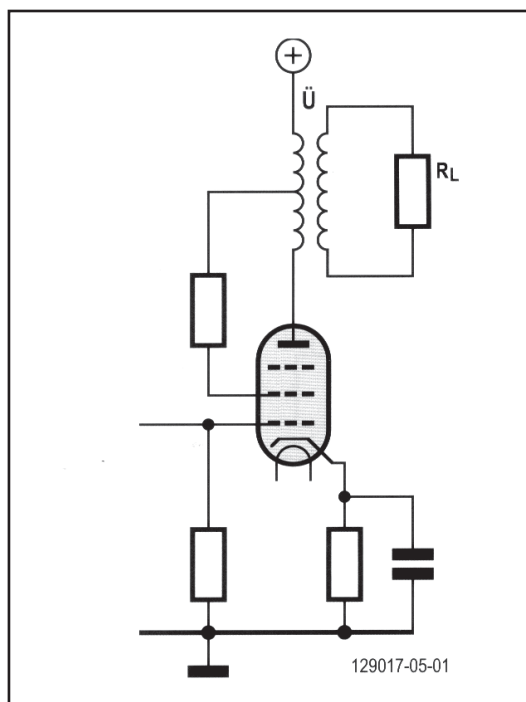
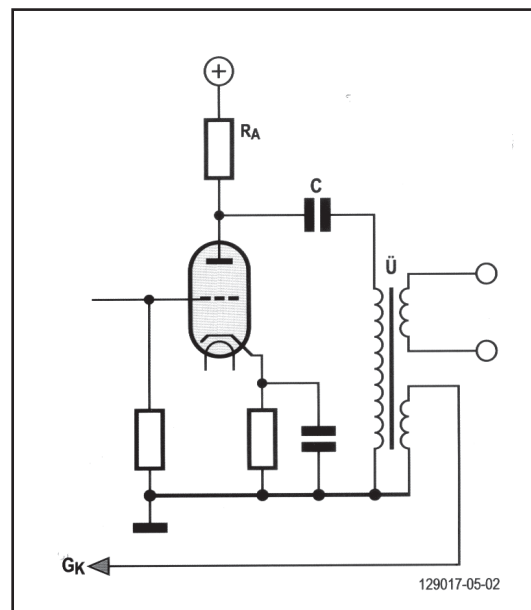
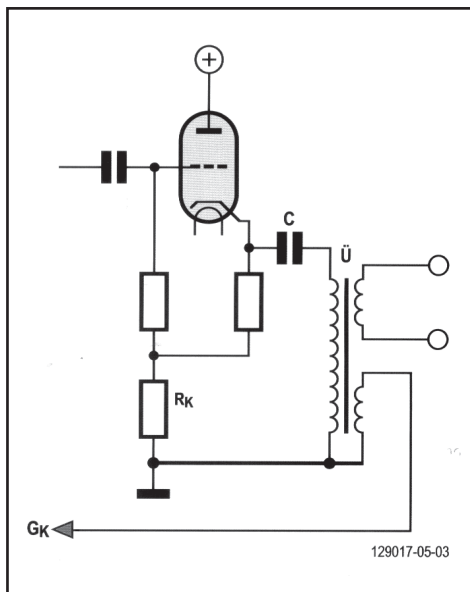

Figure 1: For headphone operation, the single-ended Class-A power amplifier's output transformer is terminated with a real load.
Figure 2: To avoid DC bias with all its disadvantages, use resistor R_A instead of a transformer.
Figure 3: This circuit design operates the tube as a cathode follower instead of decoupling at the anode.
Hum and noise directly entering at the ears (via headphones) are much more disturbing than hearing it through loudspeakers. For headphone operation it is also important that the single-ended Class-A power amplifier's output transformer is terminated with a real load (see **Figure 1**). Reference values for the load are provided in **Table 2**.
Now, there are two other variants when operating headphones with single-ended Class-A amplifiers. **Figure 1** shows the transformer being biased with direct current (DC). Therefore, a relatively big and expensive core with a corresponding winding is
To avoid DC bias with all its disadvantages, you can use the circuit design shown **Figure 2**. In the anode circuit, the resistor R_A is used instead of the transformer. The disadvantage is that a lot of output power is turned into heat. The advantage is that the output transformer is coupled DC-free via the capacitor C . This enables the usage of a significantly smaller transformer core so the danger of running up without a load no longer exists.
Instead of the anode resistor, you could also use a plate choke. Plate chokes were used in many circuits during the early days of tube technology. This significantly reduces the power loss and the dynamic range is similar to the circuit shown in **Figure 1**. The big disadvantage is that the choke must feature good audio frequency characteristics. Also, the principle of its setup is similar to a DC-biased output transformer. Furthermore, the choke serves as an inductive source for the output transformer with its DC-free connection. So, nothing is saved or improved and the problem will only be eliminated with much effort.
Figure 3 shows a third option. Instead of decoupling at the anode, the tube is operated as a cathode follower. The disadvantage is that the tube makes no contribution to the overall amplification, as it is with the options shown in **Figure 1** and **Figure 2**. The big advantage is that the signal is available at low resistance at the transformer. Also, a plate choke here, as well as a DC-biased output transformer would be possible. However, you will still face the disadvantages described with the **Figure 2** design as well as higher costs.
In all three cases, the transformer converts the tube's high output voltage at low current into a low voltage with a higher current. In all three circuit designs, it is important that the tube is able to deliver sufficient current to power the transformer. Let's say that with the circuit shown in **Figure 3**, headphones with an impedance of $24\ \Omega$ is connected and the transformer features a transformation ratio of 8:1. For